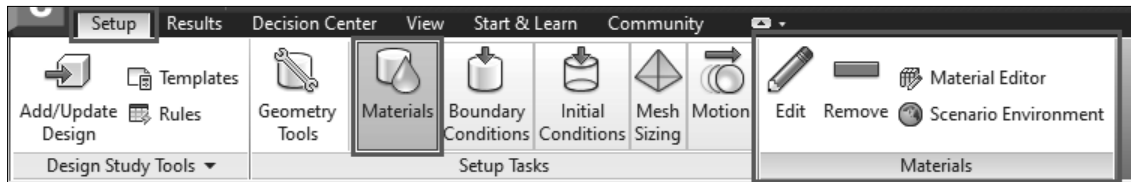
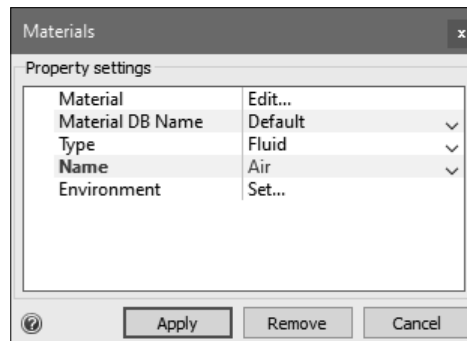

Figure-2. Setup tab
Figure-3. Materials dialog box
- Click on the **Materials** button from **Setup Tasks** panel of **Setup** tab and then click on the **Edit** button from **Materials** panel; refers to Figure-2. The **Materials** dialog box will be displayed; refer to Figure-3.